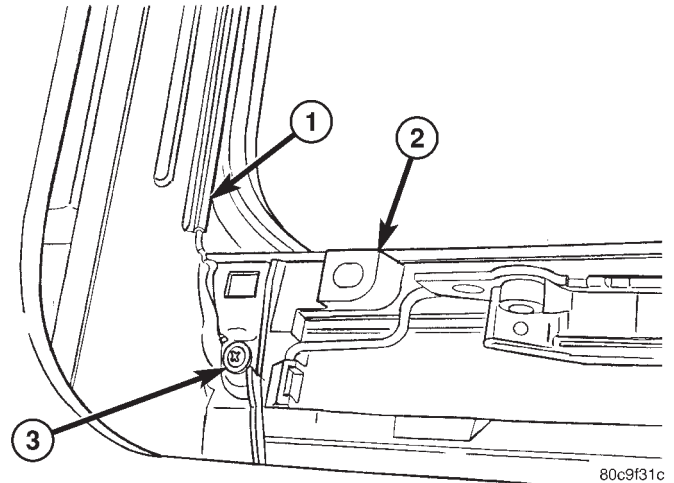

Fig. 3 GUIDE ASSEMBLY TROUGH
- (1) Remove glass assembly from the sunroof assembly. (Refer to 23 - BODY/SUNROOF/GLASS PANEL - REMOVAL)
- (2) Remove two screws from trough assembly (Fig. 3).
- (3) Remove trough assembly.
- (4) Slide the sunshade forward to disengage the guide feet from the tracks through the cutouts at the front of the tracks.
- (1) Remove the glass panel. (Refer to 23 - BODY/SUNROOF/GLASS PANEL - REMOVAL)
- (2) Place sunroof into the vent position.
- (3) Remove two screws from trough assembly (Fig. 3).
- (4) Remove trough assembly.